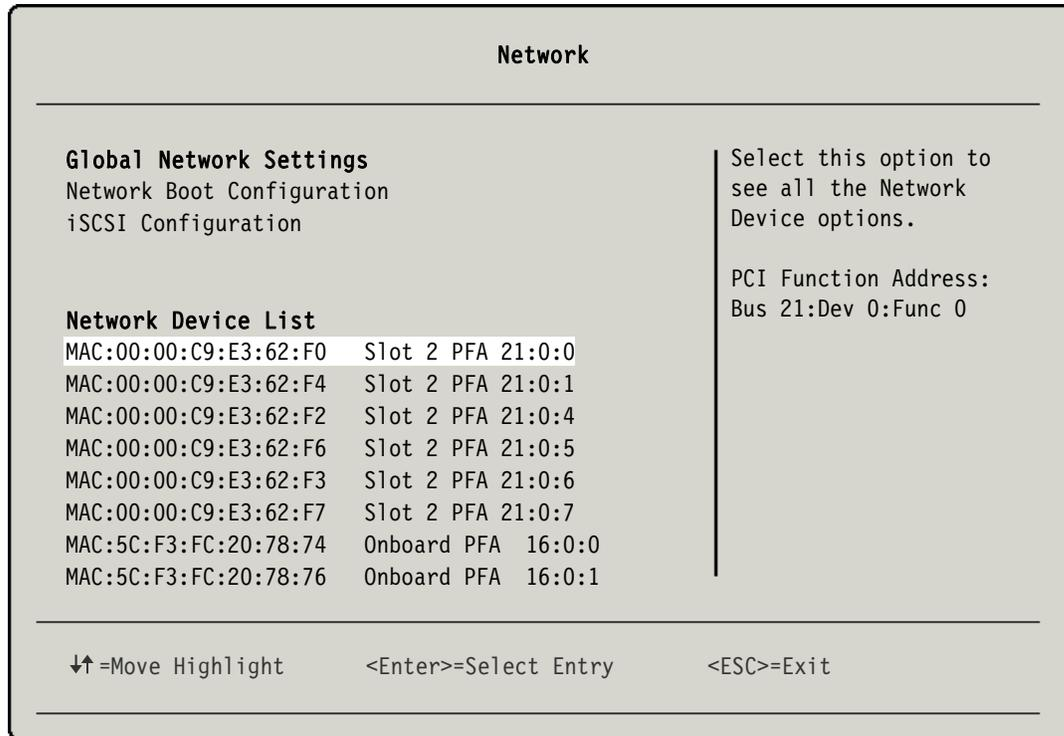

Figure 10-4 Network configuration panel in the blade UEFI utility
5. In the Network panel (Figure 10-4), which shows two Emulex 10 Gbps ports, select the first port on which to configure vNICs.